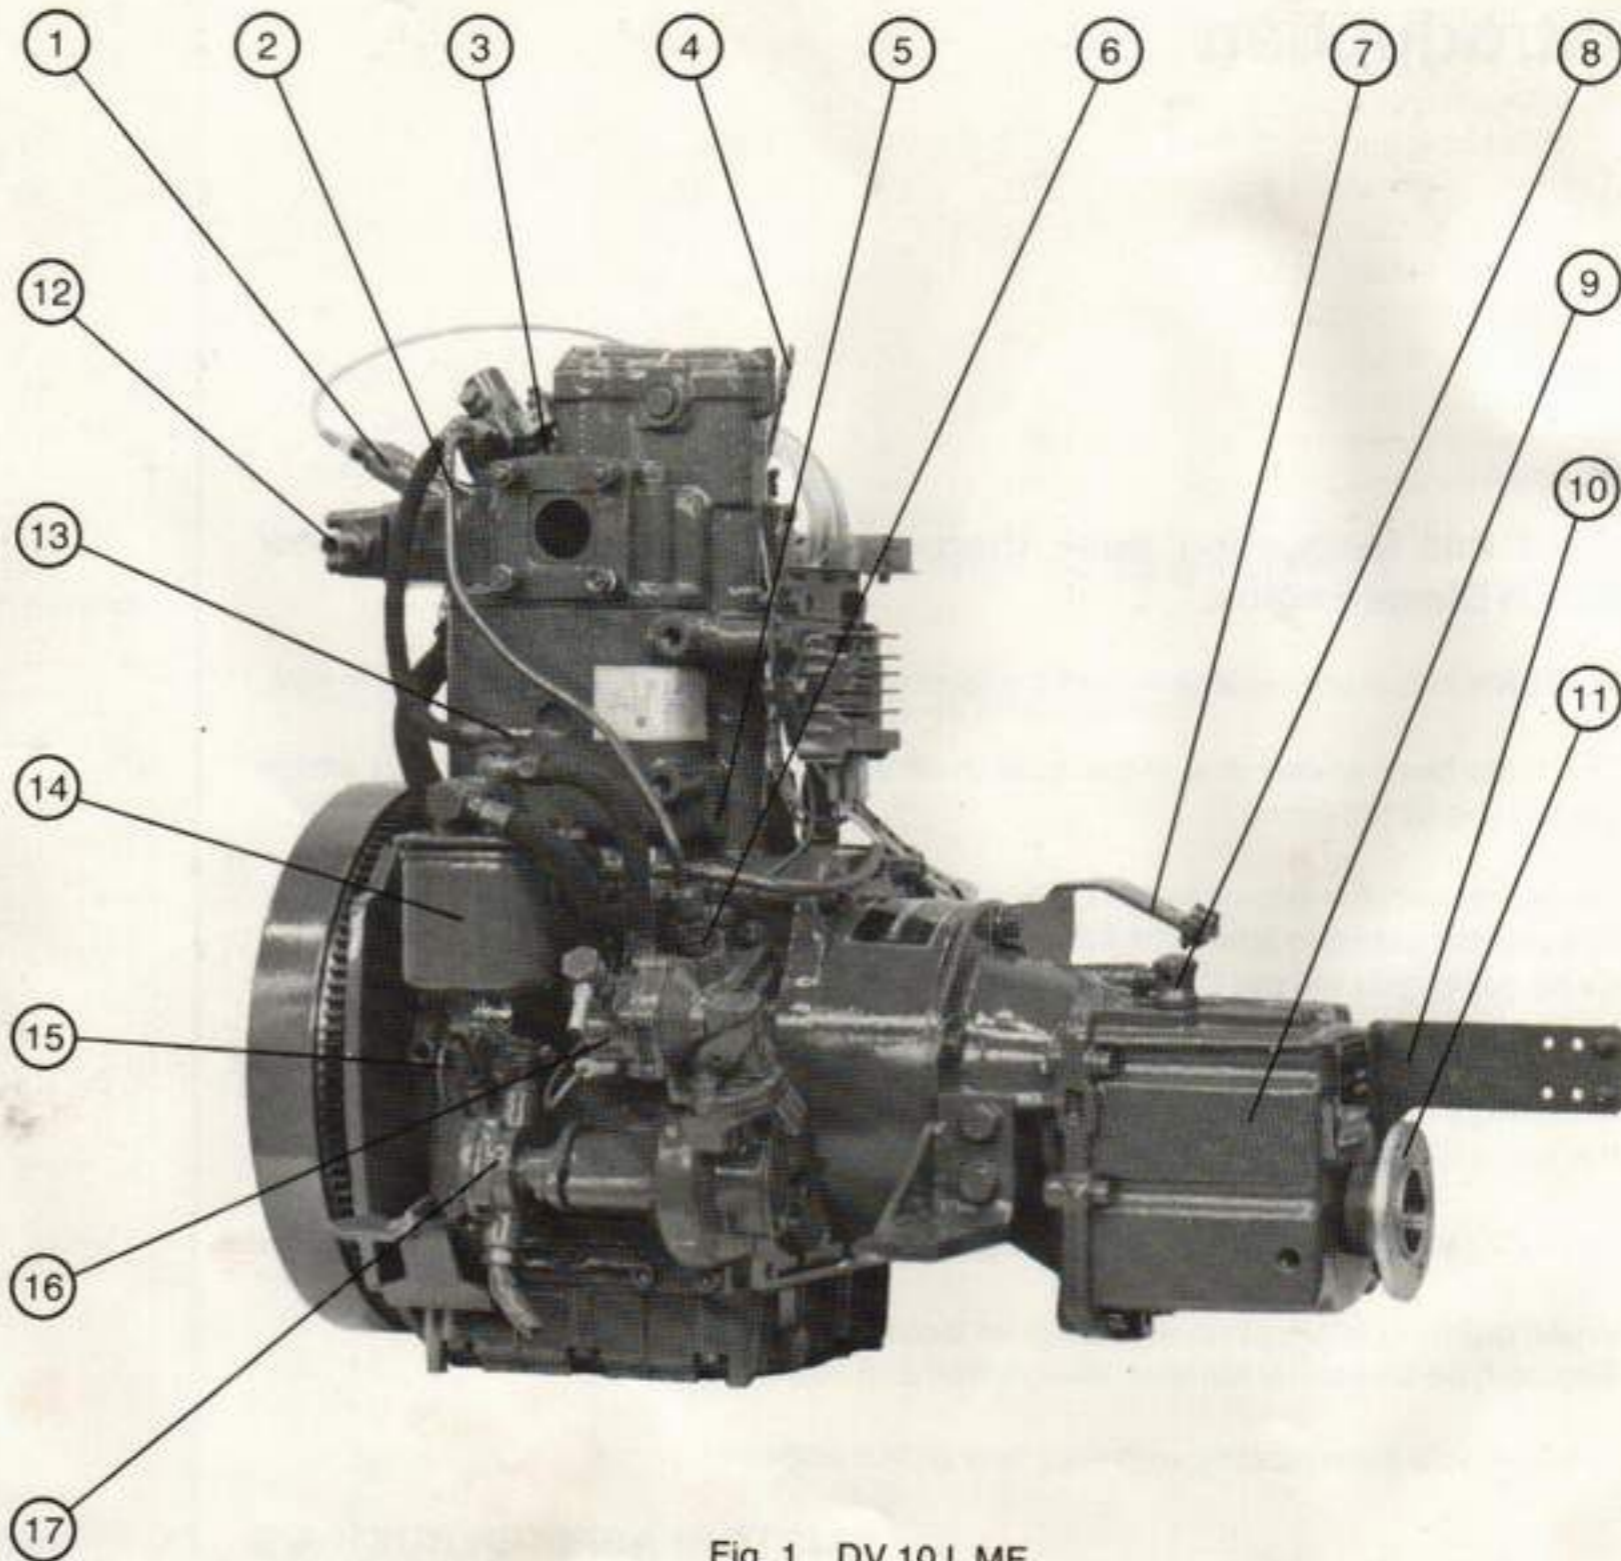

Fig. 1 DV 10 L ME.
- b. Loosen fuel pipe connection on the nozzle holder, if necessary (fig. 1, pos. 1).